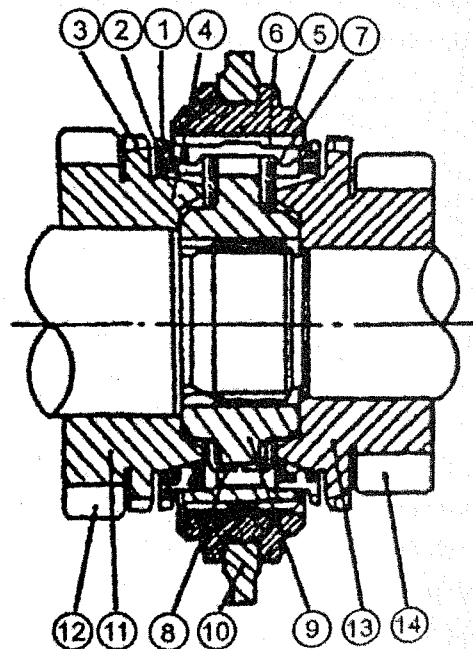

Fig. 2-3 Synchromesh Gear
2.2.6 Synchromesh Gear (Refer to Fig. 2-3.)